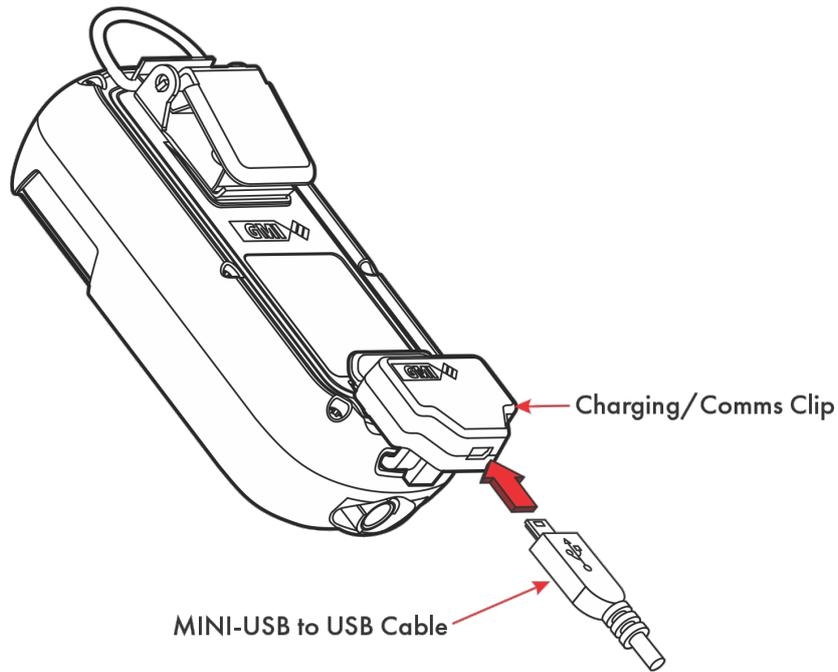

Figure 7-2: Connect Cable to Charging/Comms Clip
2. Connect the supplied MINI-USB to USB Cable to the Charging/Comms Clip (as shown in Figure 7-2: Connect Cable to Charging/Comms Clip).